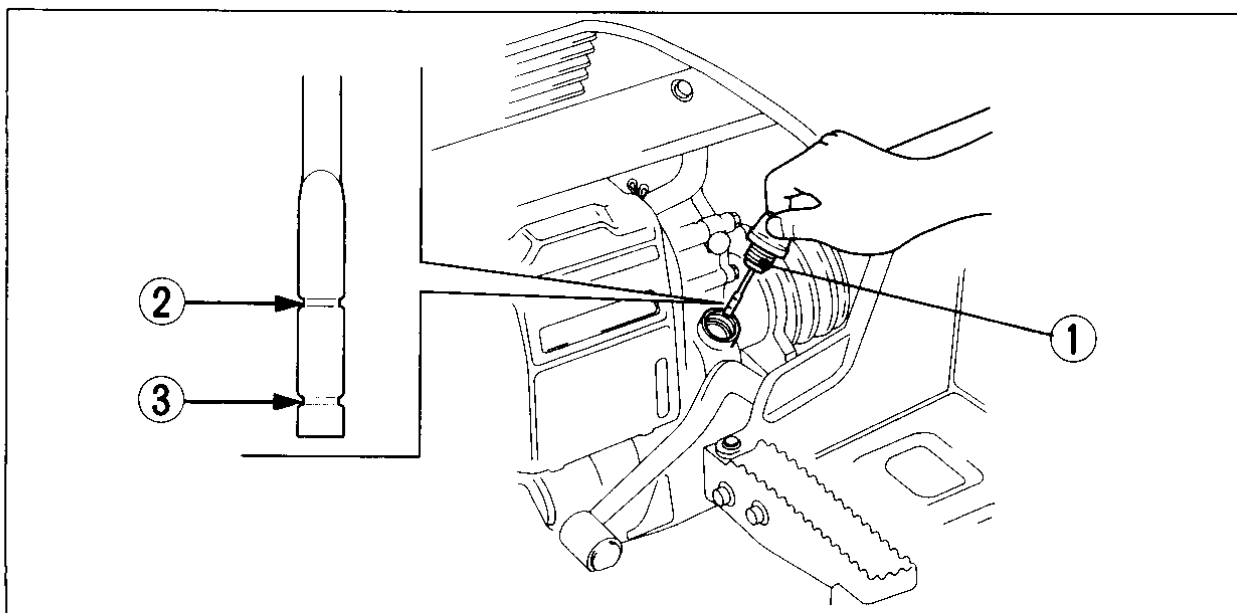

Fig. 4-10
4. After a few minutes, remove the oil filler cap/dipstick (Fig. 4-10) from the rear crankcase cover and wipe it clean.
5. Insert the dipstick without screwing it in, then remove the dipstick and check the oil level. The oil level should be between the upper level mark (2) and the lower level mark (3) on the dipstick.
1. With the FOURTRAX on level ground, remove the oil filler cap/dipstick from the rear crankcase cover (Fig. 4-10).